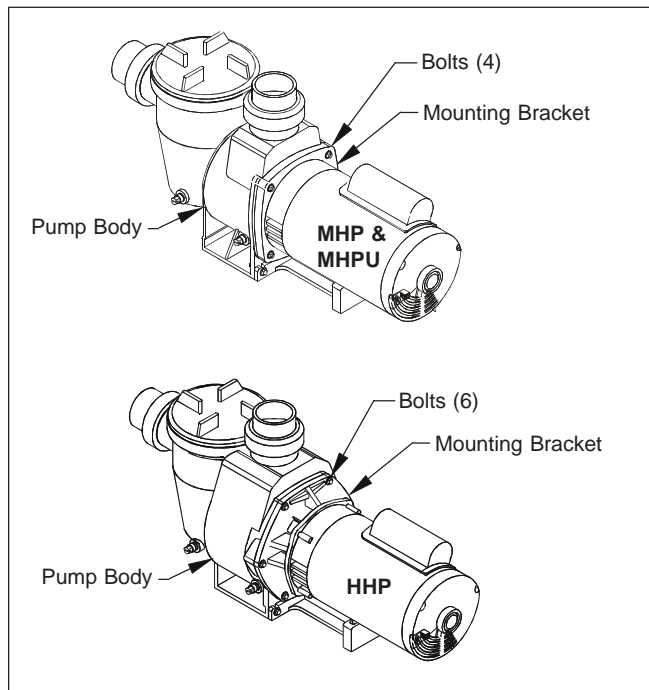

Figure 1. Removing the Pump Housing
3. Using a wrench, loosen the bolts connecting the pump body to the mounting bracket (See Fig. 1).